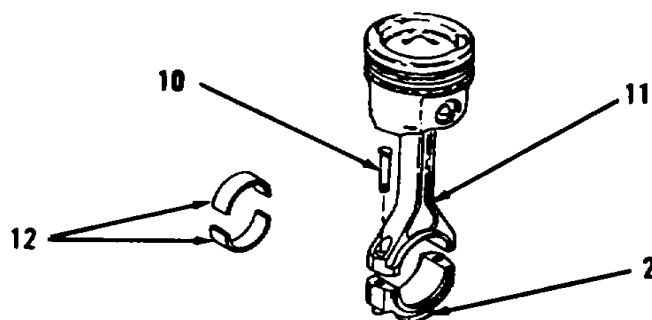

Figure 13-48.
5. Install oil ring (5) over spring in lowest groove with ring gage 180 degrees from spring joint.
7. Install two bearings (12) into cap (2) and connecting rod (11, Figure 13-48).
8. Install bolts (10) into connecting rod (11).
12. Using clean oil, dip piston (8).